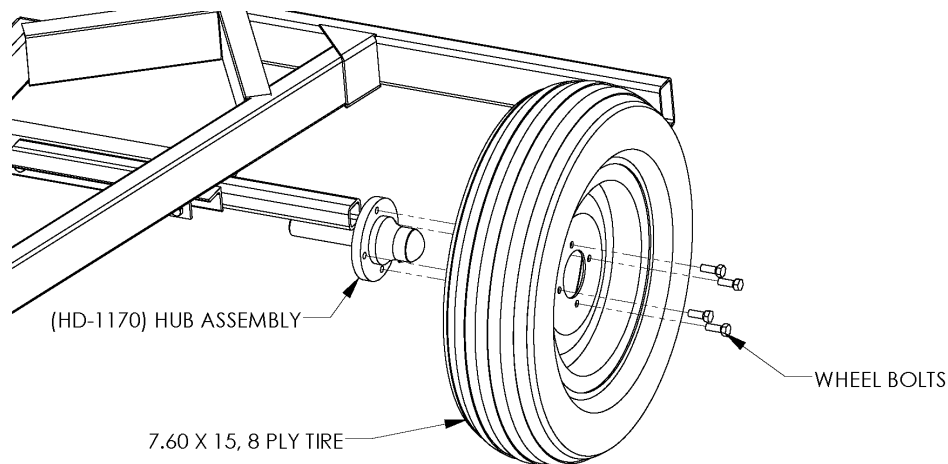

Figure 2
4. Secure the 7.60 x 15 8 ply tires to the axle hub using the wheel bolts. See Figure 2. Refer to Hub and Tire specifications on page 31.